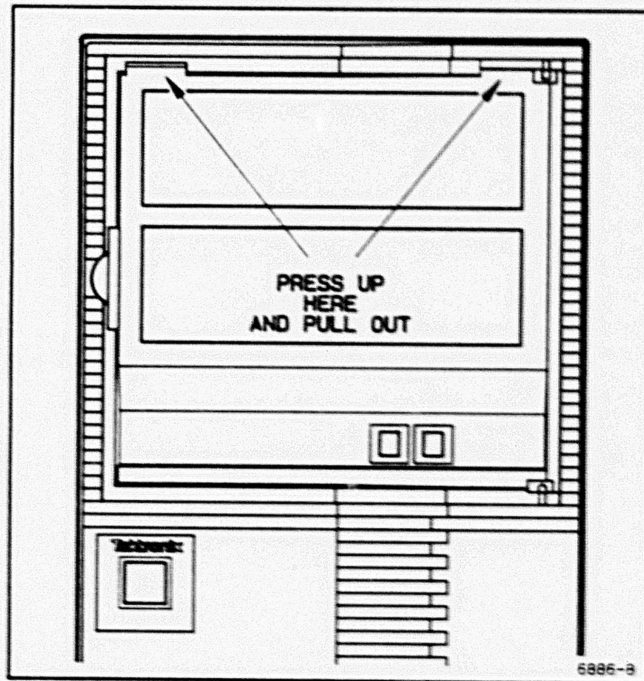

Figure 1. Removing the Compute Module Front Cover.
3. Unlatch the front cover by squeezing the two tabs located in the top surface, inside the disk drive door; see **Figure 1**. Then pull the front covers away from the Compute Module. Lift the panel off the bottom tab slots and set it aside.